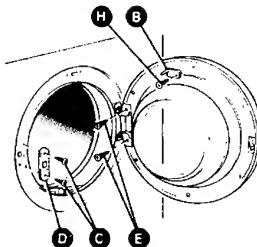

Fig. 3
(Fig 3) - Refit latch plate (D) and screws (C)
- Remove screw (H) at top of door and refit